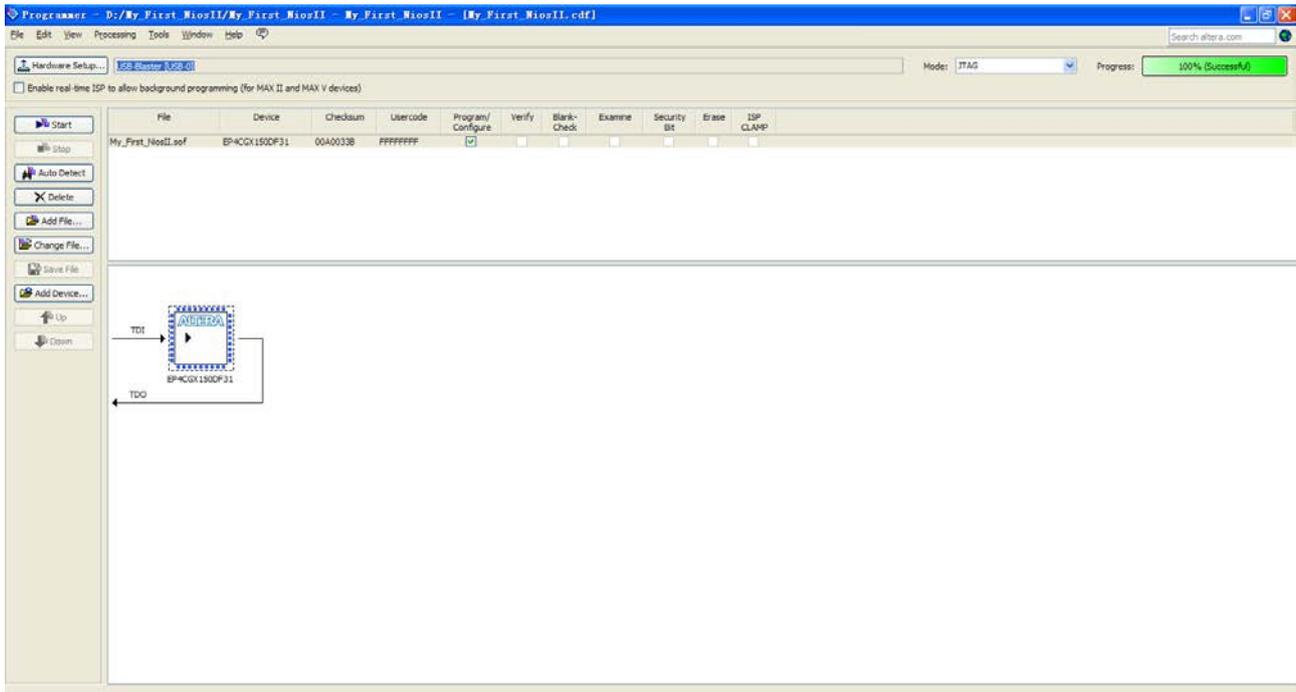

Figure 1-70 Quartus II Programmer
15. Turn on the **Program/Configure** option for the programming file.(See Figure 1-70 for an example).